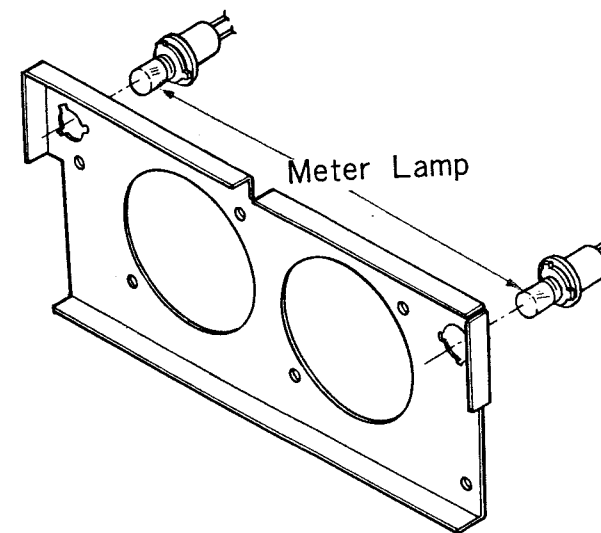

Fig. 2-6. Meter Lamp Replacement
- Turn the black plastic lamp socket clockwise (as viewed from the back of the panel) and pull out the socket. See Fig. 2-6.